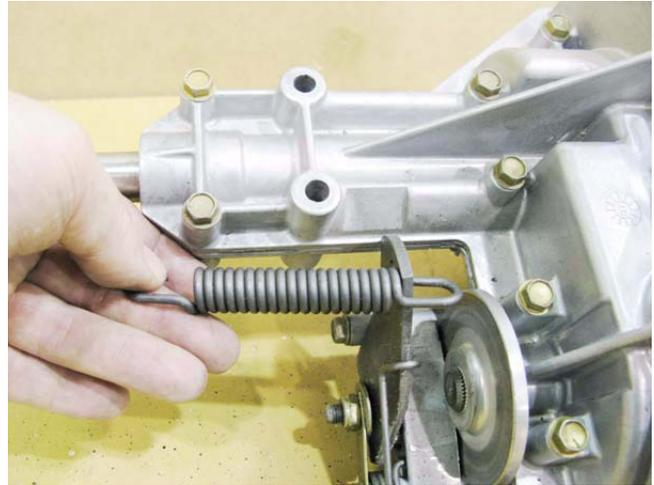

Figure 6.88
- 6a. Unhook and remove the brake spring. See Figure 6.88.